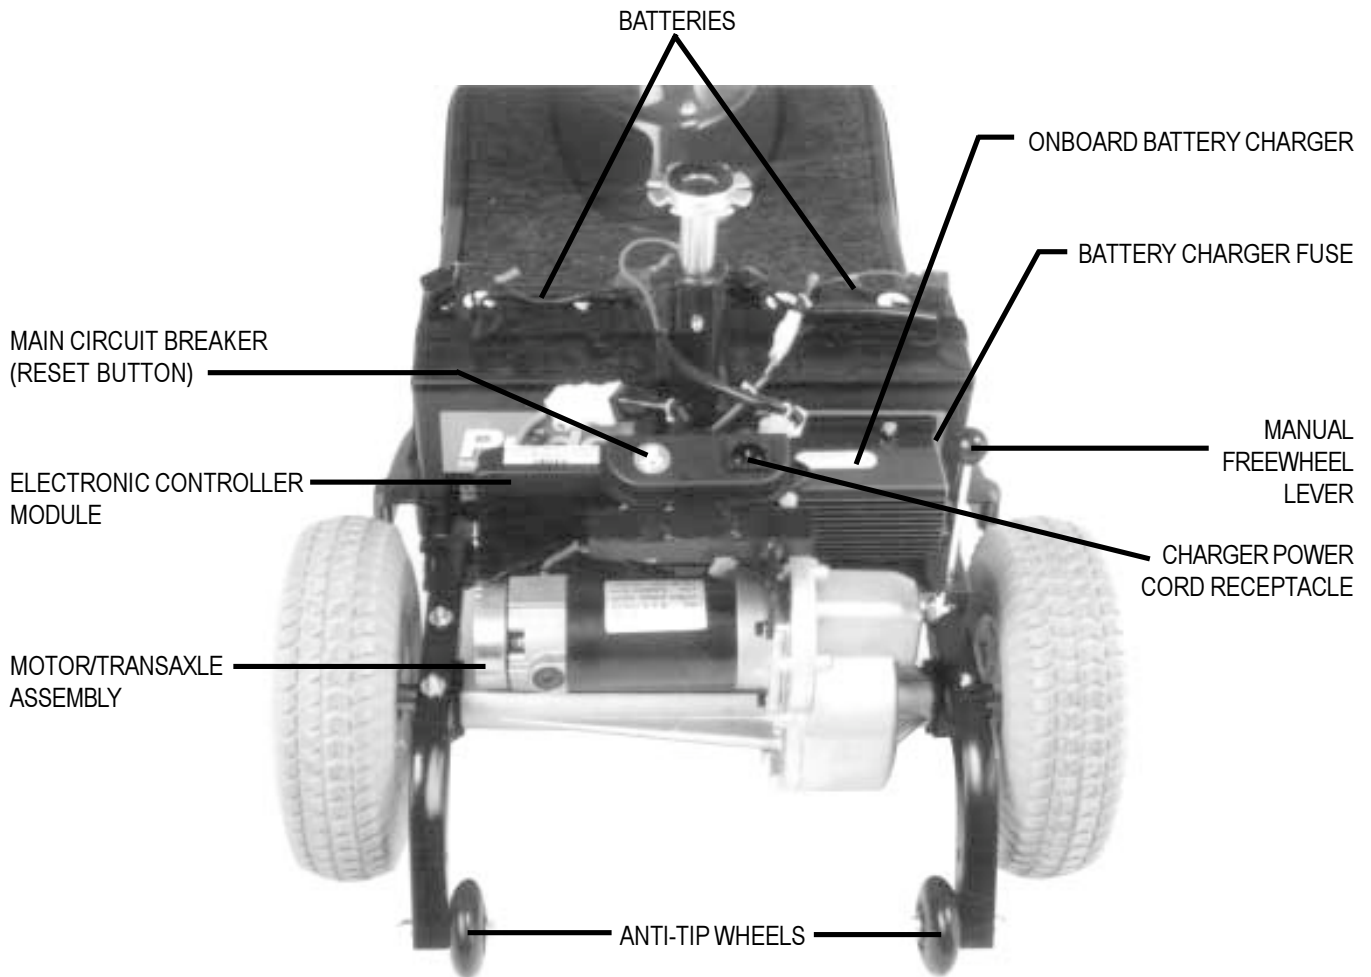

FIGURE 8. REAR SECTION
The onboard battery charger, the charger power cord receptacle, the battery charger fuse, the batteries, the electronic controller module, the main circuit breaker (reset button), the manual freewheel lever, and the motor/transaxle assembly are located on the rear section of your Victory. See figure 8. Refer to IX. "Disassembly and Assembly" for instructions on removing the rear shroud.
- The charger power cord plugs into your Victory's battery charger by means of a receptacle located on the rear section of your Victory, near the manual freewheel lever and the main circuit breaker reset button. See figure 8.
- The main circuit breaker is mounted on the rear section of the Victory. See figure 8.
- The manual freewheel lever is located on the end of the motor/transaxle assembly at the right rear of the Victory. See figure 8.
The motor/transaxle assembly consists of a geared transmission and differential. This one piece, direct drive, fully sealed assembly provides quiet operation with maximum power and long life. See figure 8.
The anti-tip wheels are an integral and important safety feature of your Victory. Do not, under any circumstances, remove the anti-tip wheels from your Victory. See figure 8.
Your Victory uses two long-lasting, 12-volt, deep-cycle batteries that are sealed and maintenance free. They are recharged by an onboard 3-amp charging system designed for ease of use and convenience. See figure 8.